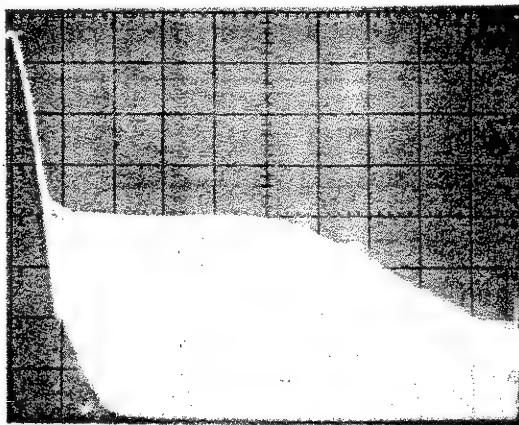

Figure 5-12. Phase Detector Response Waveform
- c. Adjust efficiency control A4A7R18 for a flat response to approximately 5 MHz with very slight peaking ($1 \text{ dB} \pm 1 \text{ dB}$). See the waveform in Figure 5-12 for typical response.